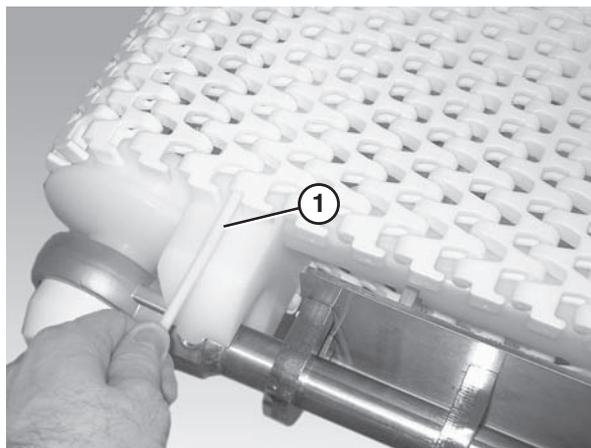

Figure 44
5. Insert the belt rod (**Figure 44**, item 1).